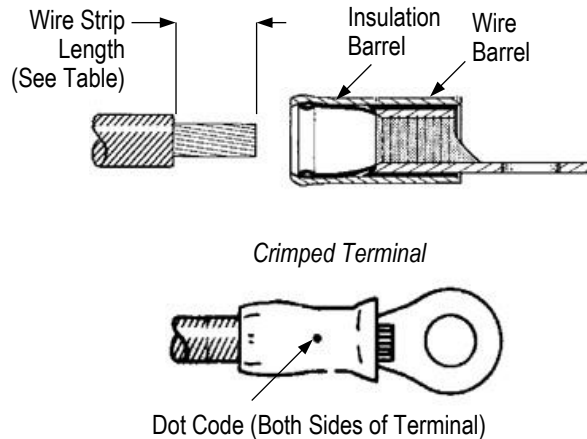

Figure 2
1. Strip the wire to the dimension provided in Figure 2.
5. Inspect the crimped terminal for the dot code on both sides of the terminal according to Figure 2.